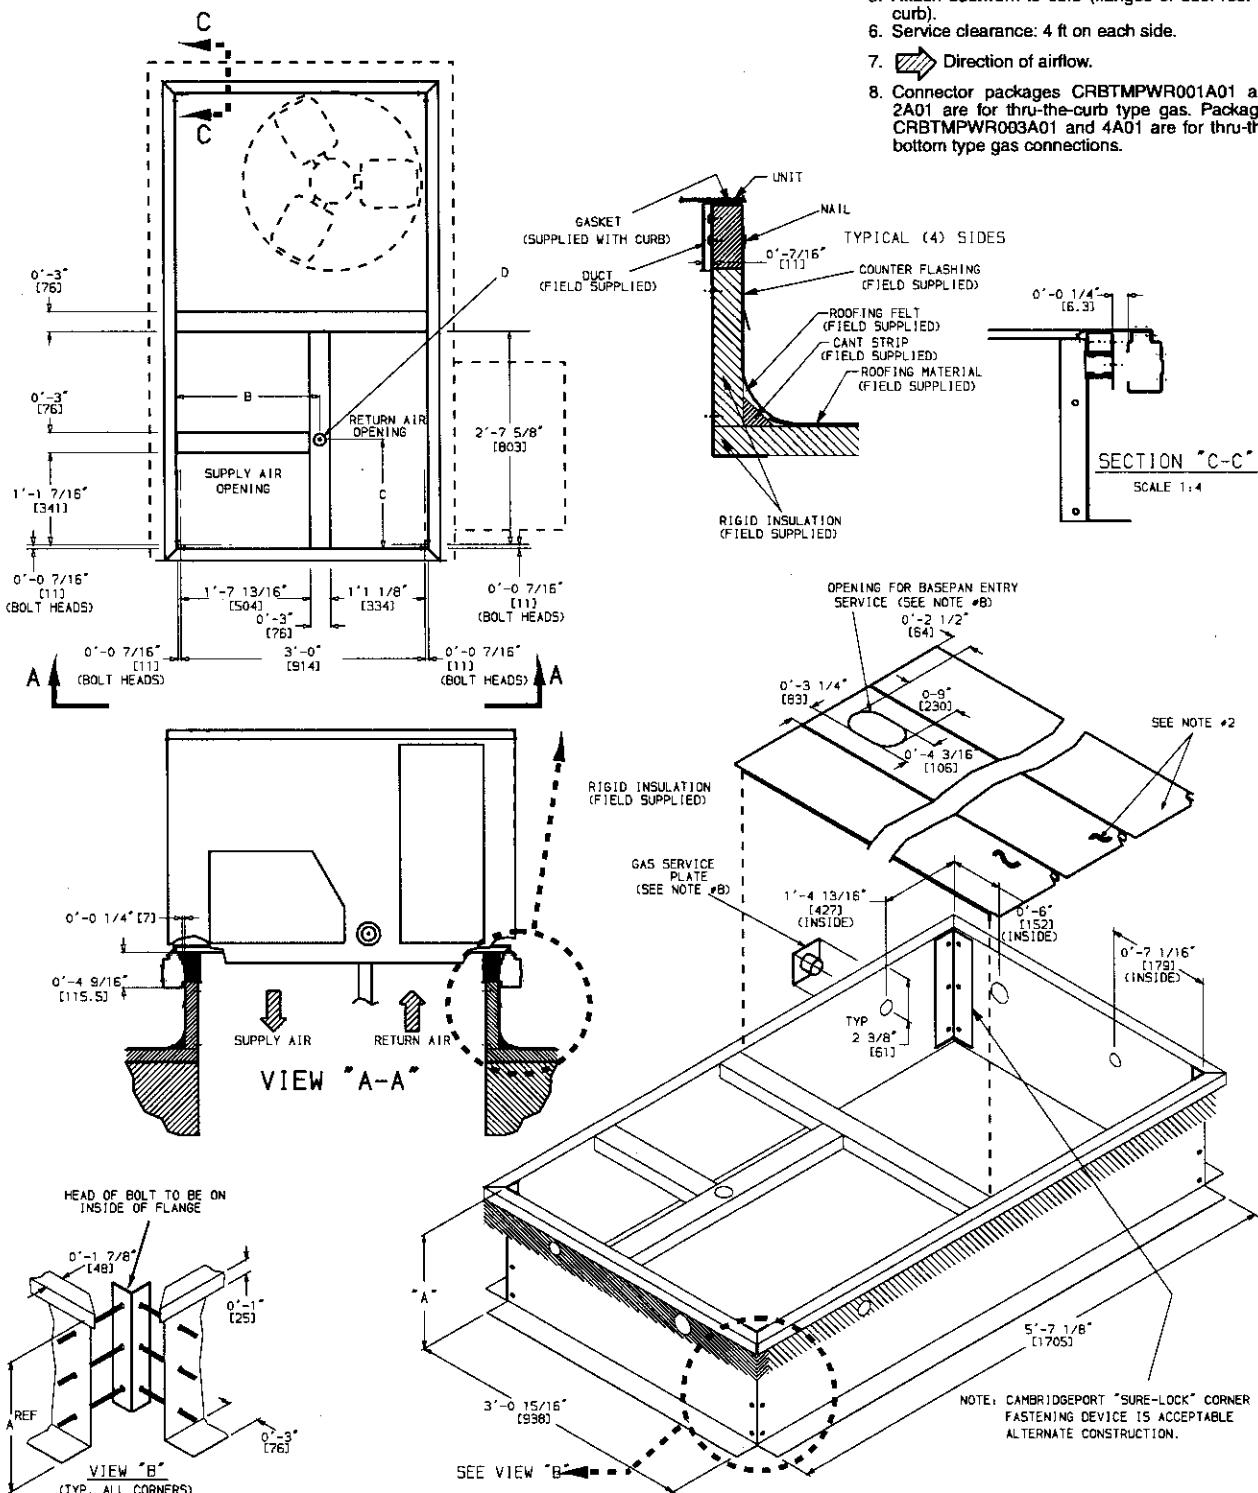

Fig. 3A — Roof Curb Details (48/50HJ004-007 Section Only)
**COBRA UNIT WITH STANDARD ROOF CURB** — If a standard rooftop curb is used (for new or retrofit applications), it is capable of supporting the rooftop unit section. An accessory support rail must be used to support the 62AQ Energy\$Recycler™ section. Assemble and install accessory roof curb in accordance with instructions shipped with curb. See Fig. 3A, 3B and 4. Install insulation, cant strips, roofing felt, and counter flashing as shown.
**IMPORTANT:** The gasketing of the unit to the roof curb is critical for a watertight seal. Install gasket supplied with the roof curb as shown in Fig. 3A and 3B. Improperly applied gasket can result in air leaks and poor unit performance.